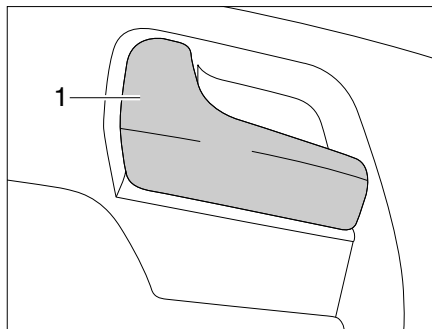

Fig. 49 Door lock of driver's door, inside
- Pull on the handle (Fig. 49,1). The door lock is unlatched.